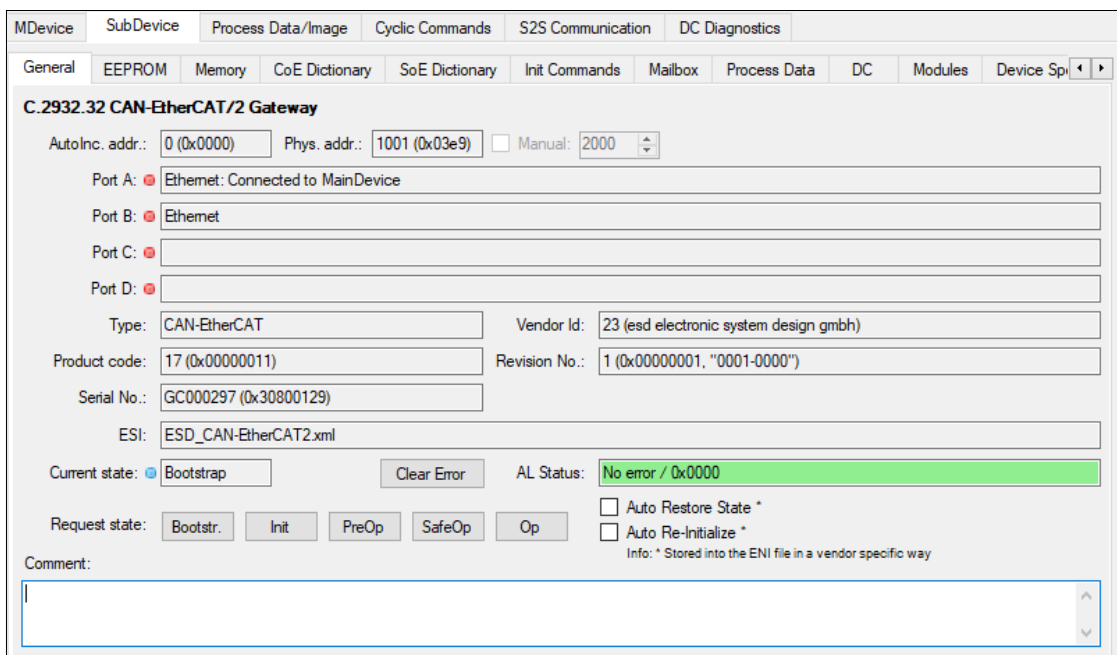
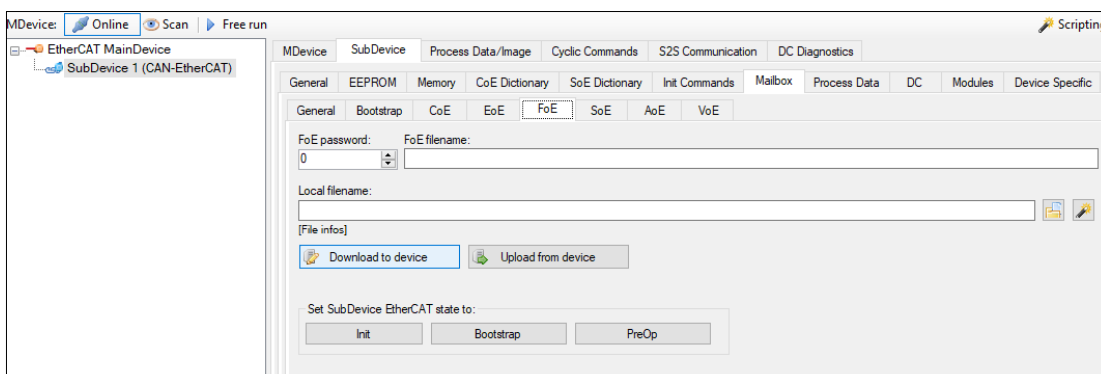

Figure 33: Firmware update via FoE
Figure 34: FoE file transfer dialog
2. Set the SubDevice in the state *Bootstrap*. Therefore, choose the tab *SubDevice* and then *General*. Now click on the button *Bootstr.* as described in Figure 33. The *Current state*: of the CAN-EtherCAT/2 gateway is switched to *Bootstrap*. You can also click on the button *Bootstrap* in tab *FoE* to put the device into bootstrap mode, see Figure 34.
4. Click the button *Download to device* (see Figure 34) and select the firmware file in the Windows selection dialog that appears.